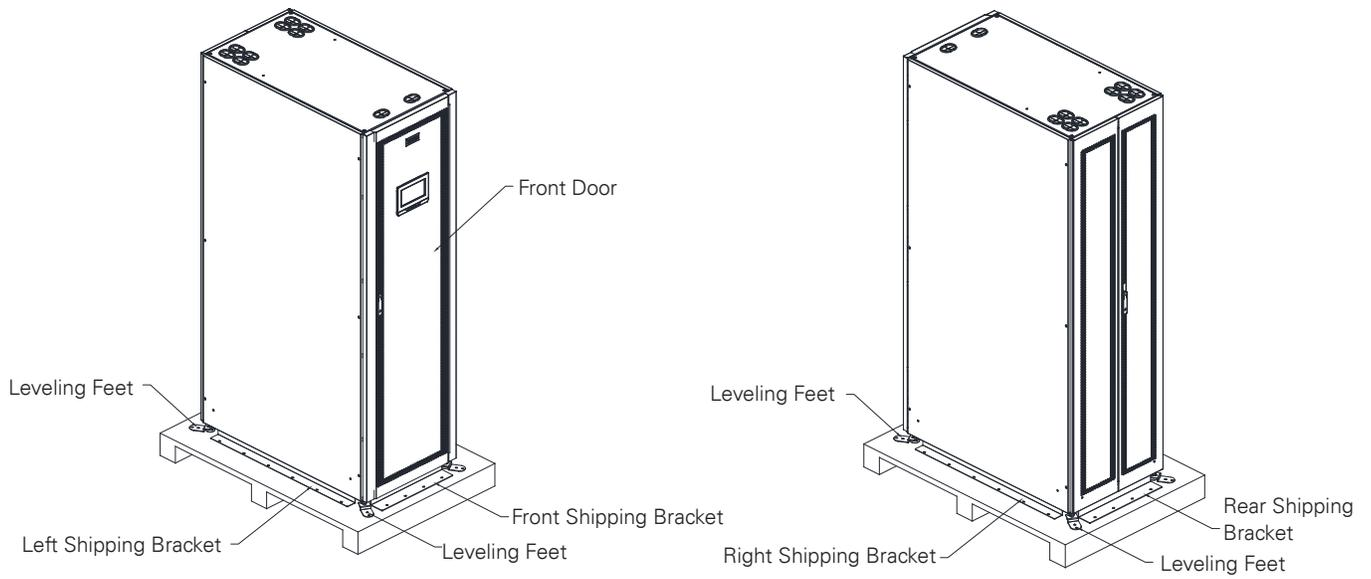
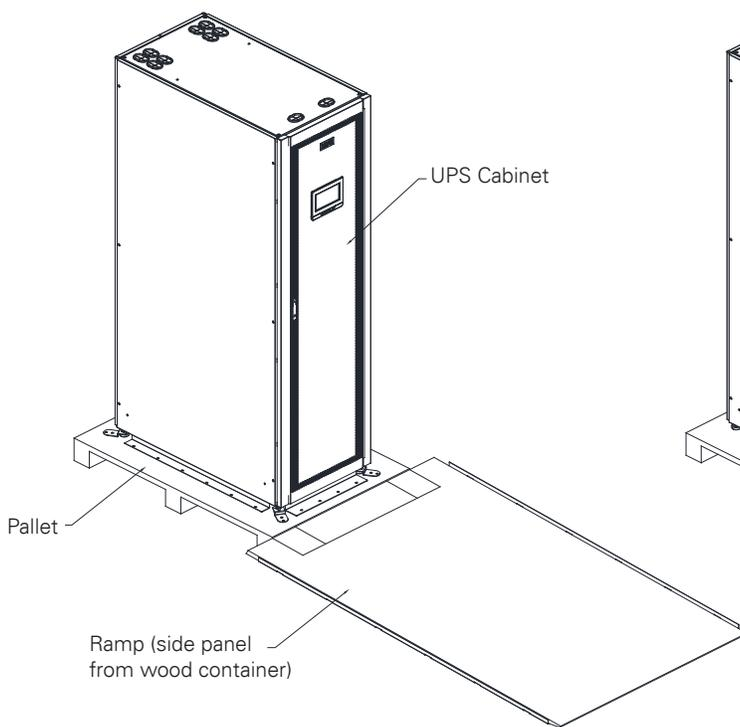
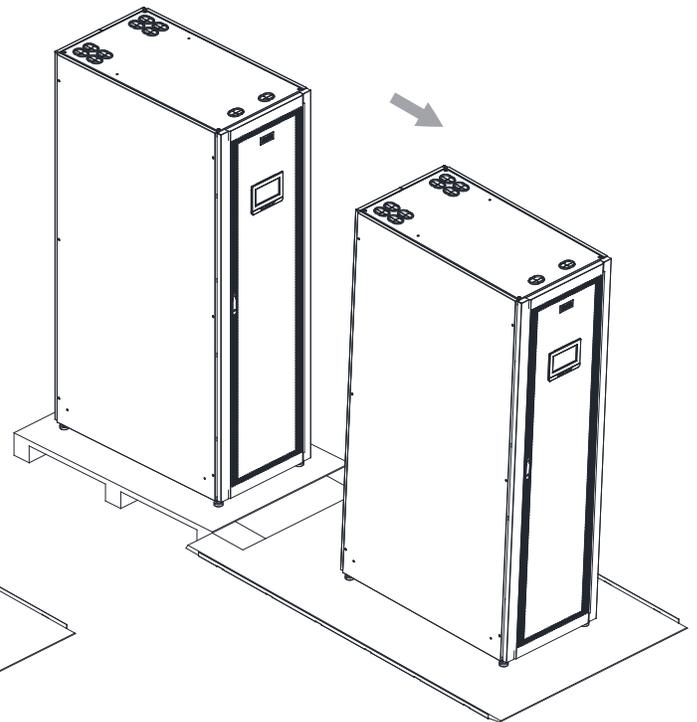

Figure 3-4: Remove all Fixed Shipping Brackets and Screw Fixed on the Pallet
Figure 3-5: Attaching the Ramp to the Pallet
Figure 3-6: Rolling the Cabinet Down the Ramp
1. If not already accomplished, use a forklift or pallet jack to move the UPS cabinet to the installation area, or as close as possible, before unloading from the pallet. Insert the forklift or pallet jack forks between the supports on the bottom of the pallet (see Figure 3-4 through Figure 3-6 for the UPS cabinet centre of gravity measurements).
2. Remove four bolts securing the front / rear/left /right shipping bracket to the cabinet and four bolts securing the bracket to the pallet (see Figure 3-4). If installing the cabinet permanently, retain the shipping bracket and securing hardware for later use.
3. Attach the ramp to the front of the pallet (see Figure 3-5):
5. Slowly roll the cabinet toward the front of the pallet. Continue rolling the cabinet down the ramp until the cabinet is clear of the ramp (see Figure 3-6).
10. Using the retained hardware, reinstall the shipping brackets removed in Step 2 and Step 5 to the front and rear of the UPS cabinet with the angle facing outward (see Figure 3-4 and Figure3-5).